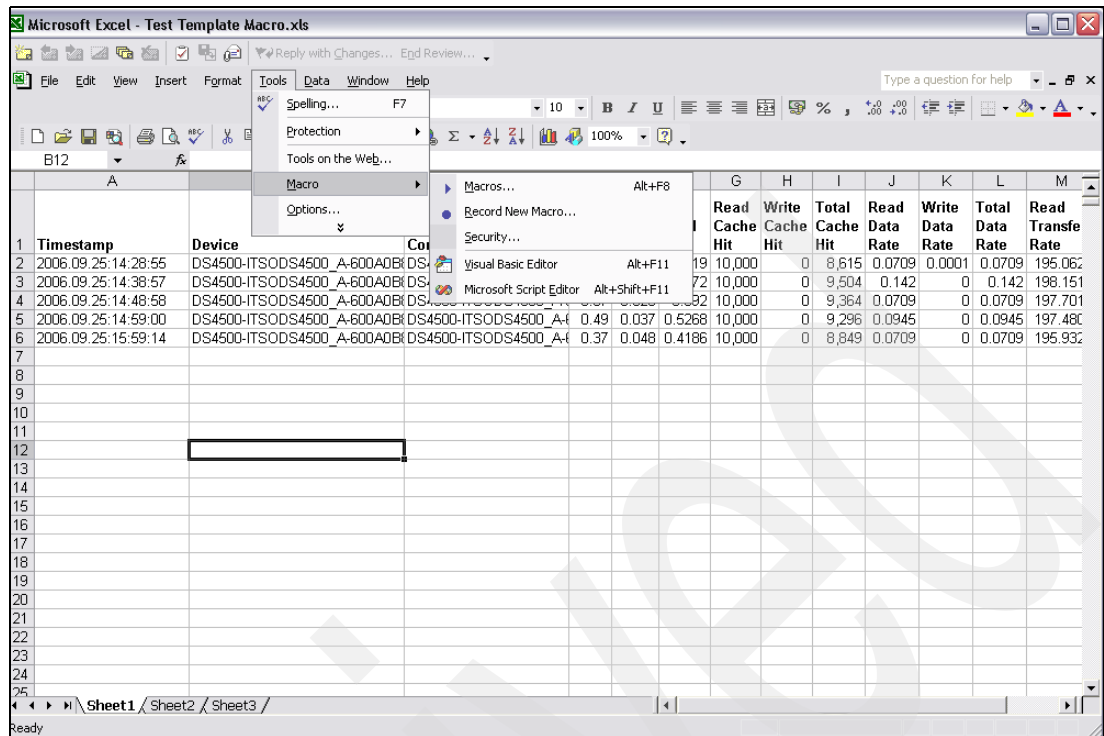

Figure 6-68 Browse to run the macro
1. Select **Tools** → **Macro** → **Macros** (Alt + F8) as shown in Figure 6-68 on page 294.